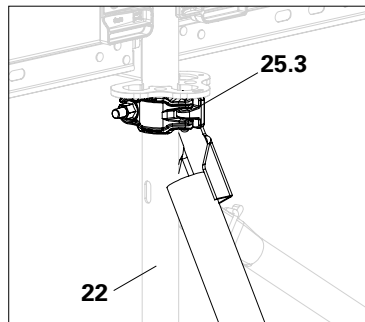

Fig. D7.04a
2. From the first scaffold level, fit the top coupling (25.3) onto the outer Easy Standard (22). Push the coupling as close as possible to the rosette and tighten. (Fig. D7.04a)